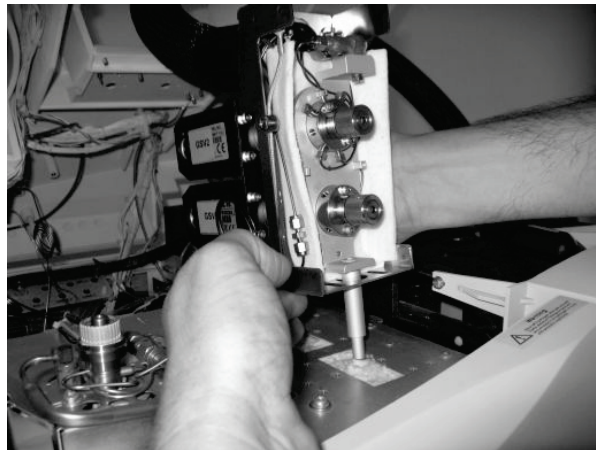

Figure 19 Inserting the GSV assembly
9. Insert the tube into the hole in the oven insulation, align the GSV assembly using the fixing screws, and tighten using a screwdriver (Figures 19–20).